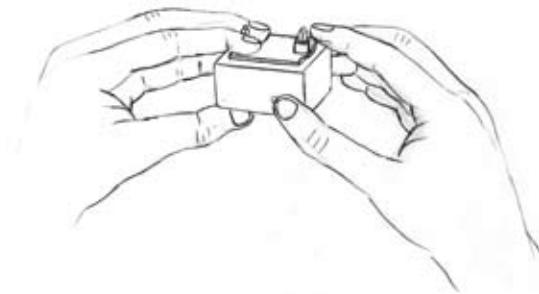

figure 4 – Receiver Collar Test Light
1. Place the Test Light on the Contact Points of the Receiver Collar (*figure 4*).